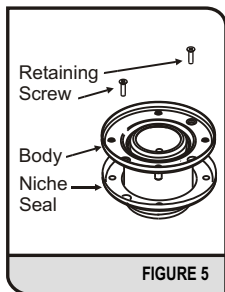

FIGURE 5
- Position the gear in the niche. Ensure there is no sand or grit on fitting sealing area. Fit the seal to the body aligning holes in niche seal with pins and screw holes. Gently push body and seal into niche aligning countersunk screw holes with retaining lugs. Secure the body with the countersunk retaining screws supplied (fig 5).